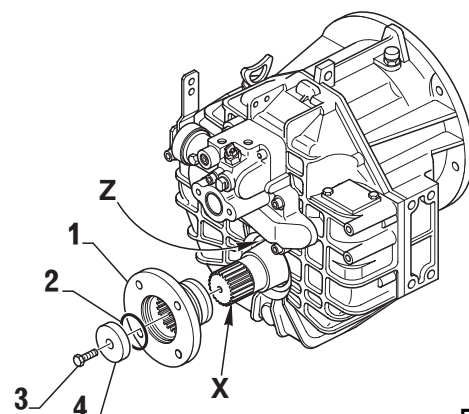

FIG. 8-1b
Tight output flange down on output shaft with bolt (item 3, Fig 8-1b) and washer (4).